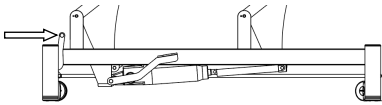

Figure 1 Control rod
- Push the control rod down (it is recommended to use your feet to push) to activate the casters. When the casters are on the ground the table is in a moving status.(Figure 1)